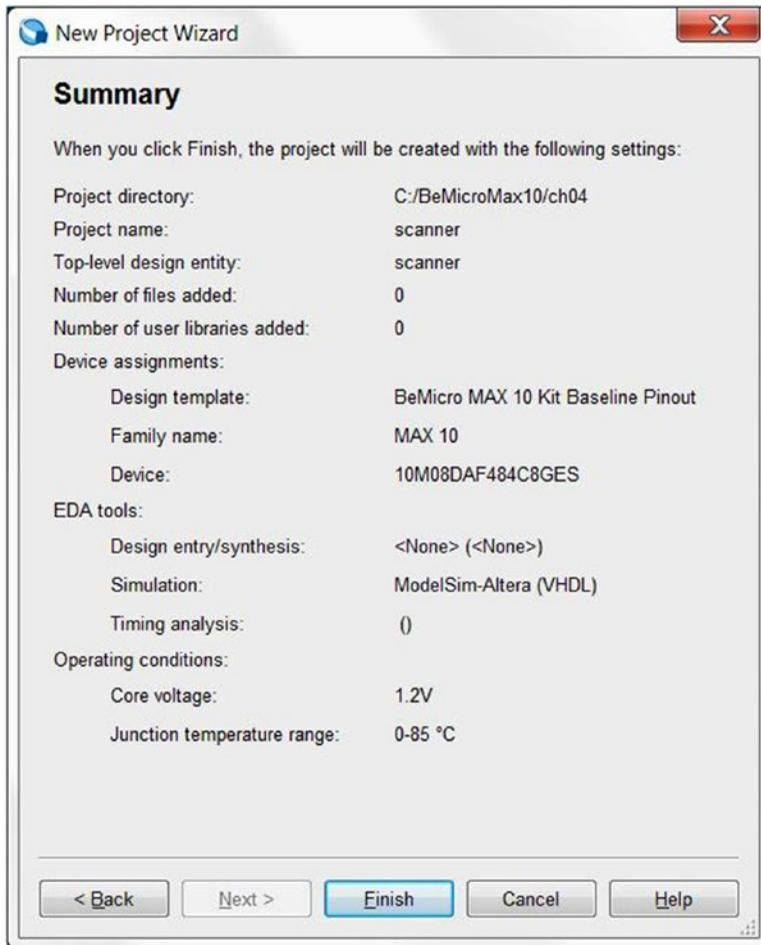

Figure 4-13. *New Project Wizard—Summary*
- This is the last step to set up the BeMicro MAX 10 project. Figure 4-13 shows a summary of the project. Make sure your summary is the same as this one and then click **Finish**.